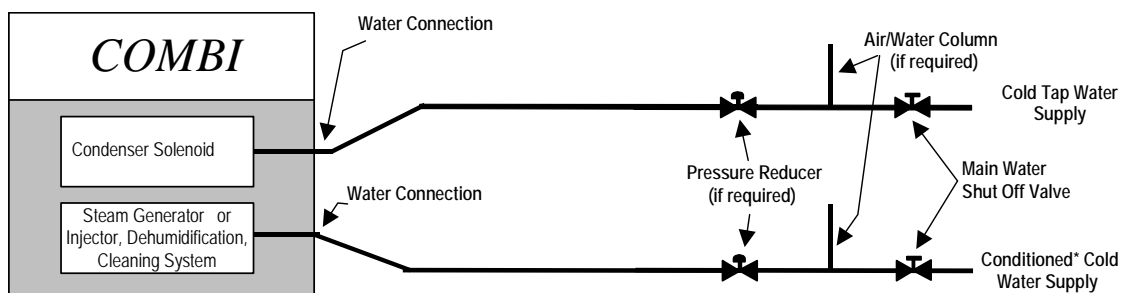

Figure 2-11 Cleveland Range Separate Water Supply Arrangement
- 7) If water supply fails to meet requirements shown in table 2-3 then use Separate Feed Water Supply Arrangement shown in figure 2-11.